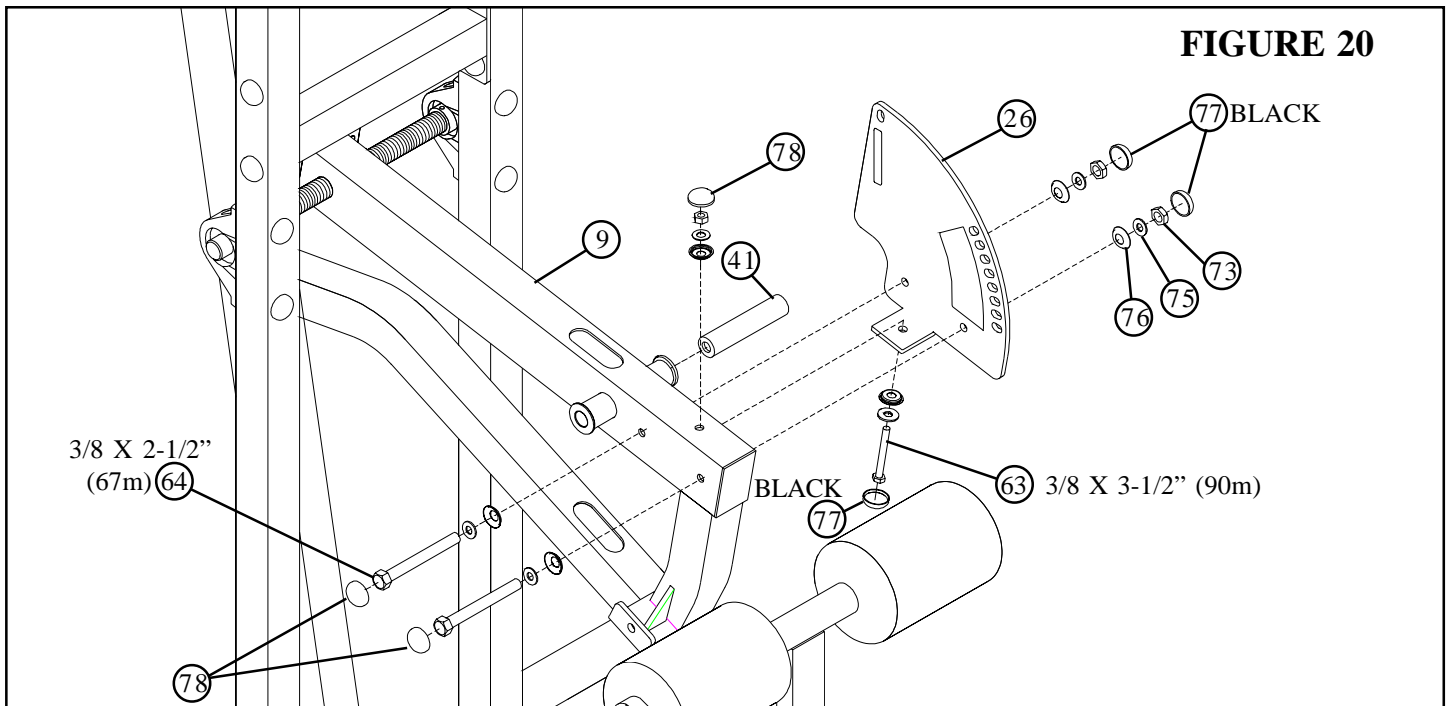

FIGURE 20
- **SECURELY** assemble the PRESS ADJUST PLATE (26) to the PIVOT ARM (9) using three BLACK RH CAPS (77), three RH CAPS (78), two 3/8 X 2-1/2" BOLTS (64), one 3/8 X 3-1/2" BOLT (63), six 3/8" SAE WASHERS (75), six 3/8" RH WASHERS (76) and three 3/8" LOW HEIGHT LOCK NUTS (73) as shown in FIGURE 20.
- Insert one 5-1/2" TAPPED PIVOT SHAFT (41) into the PIVOT ARM (9).